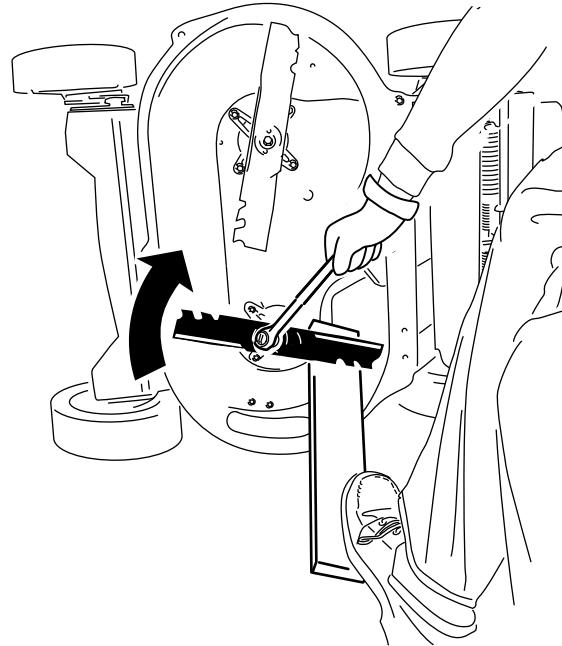

Figure 31
2. Steady each blade with a board and turn the blade bolt clockwise with a torque wrench as shown in Figure 31; torque the blade bolt to **82 N·m (60 ft-lb)**.